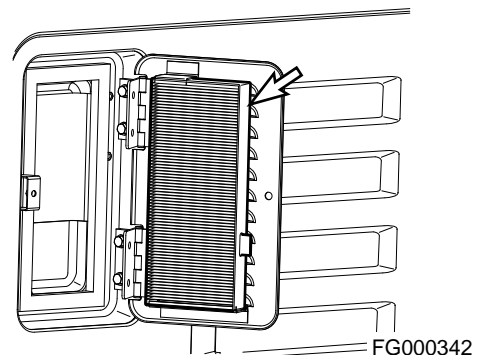

Figure 93
3. Remove filter (Figure 93) and replace with new one.